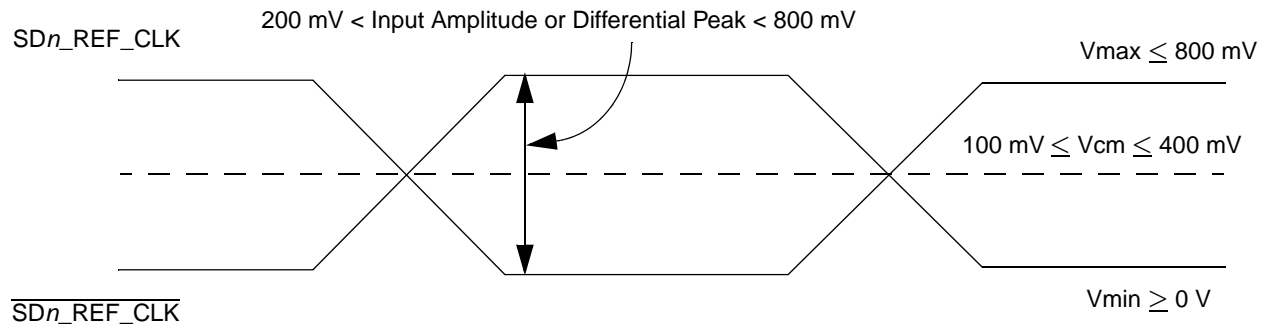

Figure 45. Differential reference clock input DC requirements (external DC-coupled)
- For **external DC-coupled** connection, as described in Section 2.21.2.1, “SerDes reference clock receiver characteristics,” the maximum average current requirements sets the requirement for average voltage (common mode voltage) to be between 100 mV and 400 mV. Figure 45 shows the SerDes reference clock input requirement for DC-coupled connection scheme.